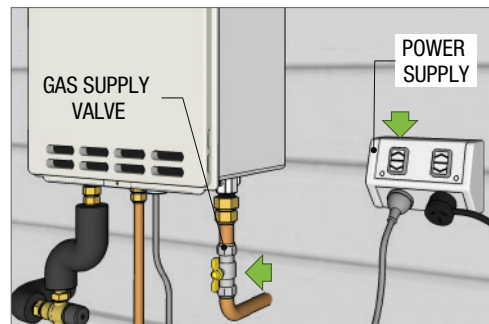

Fig 10
13. Plug in the power lead for the gas booster into the GPO and ensure it is switched ON (Fig 10)
14. OPEN the gas supply valve to the gas booster (Fig 10)